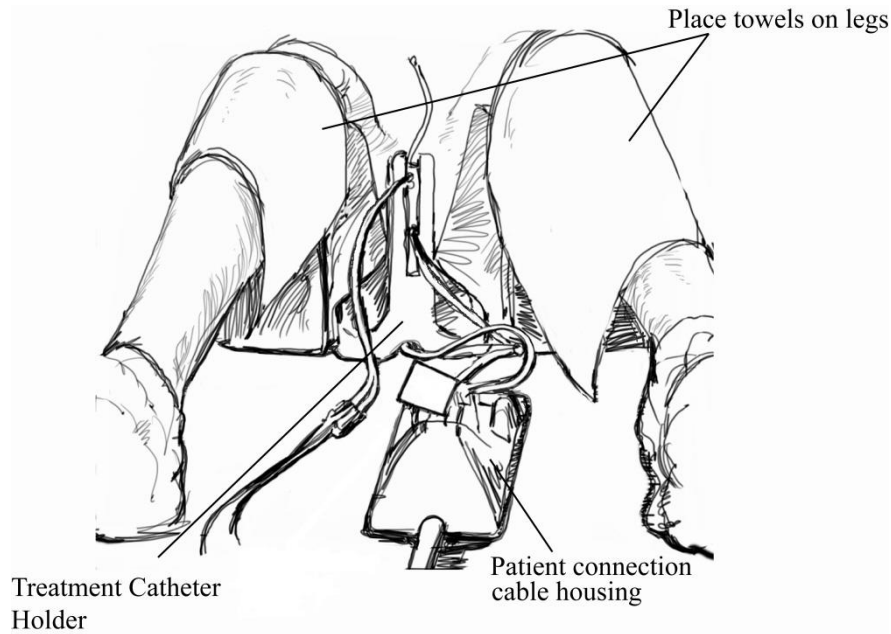

Figure 2-16. Isolate the Antenna Cable and Catheter Handle Using the Microwave Catheter Holder
- Using the microwave catheter holder from the Patient Comfort Kit to secure the microwave catheter/antenna cable/handle location (Figure 2-16),